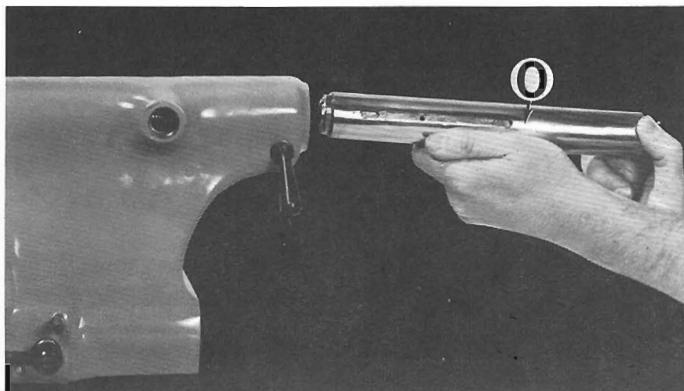
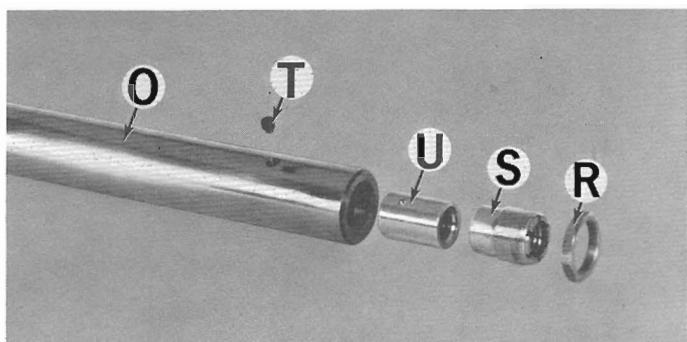
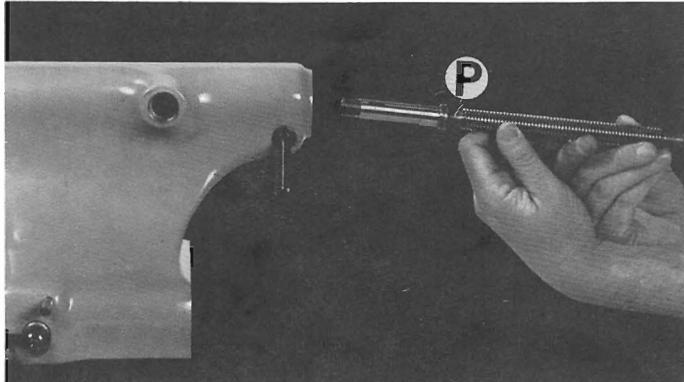

Figure 177 — Tailstock Spindle Removal
Figure 180 — Adjustable Feed Screw Nut
Figure 178 — Feed Screw Removal
- (G). Remove tailstock spindle "O", Figure 177, feed screw "P", Figure 178, and bearing "Q", Figure 179. **EXTREME CARE SHOULD BE EXERCISED TO PREVENT DAMAGE TO PRECISION SURFACES OF SPINDLE DIAMETERS AND TAILSTOCK BODY BORE.**
- (H). Remove nut "R", Figure 180, half nut "S", screw "T" and half nut "U" from tailstock spindle "O".
- (A). Replace half nut "U", Figure 180, and screw "T". Assemble half nut "S" leaving sufficient projection for lock nut "R". Assemble lock nut "R" but do not tighten.
- (B). Thread feed screw "P", Figure 178, into feed screw nut and spindle slowly while turning half nut "S", Figure 180, gradually until half nut threads line up permitting feed screw to pass through half nut "U".
- (C). Turn half nut "S" inward until a slight backlash is encountered when feed screw is turned. Hold half nut "S" and lock nut "R". Remove feed screw. When tailstock is reassembled there should be a maximum backlash of three graduations on dial handwheel.
- (D). Replace bearing "Q", Figure 179. Lubricate feed screw "P", Figure 178, with Cosmolube #2 and spindle "O", Figure 177, with spindle oil. Replace feed screw and spindle.